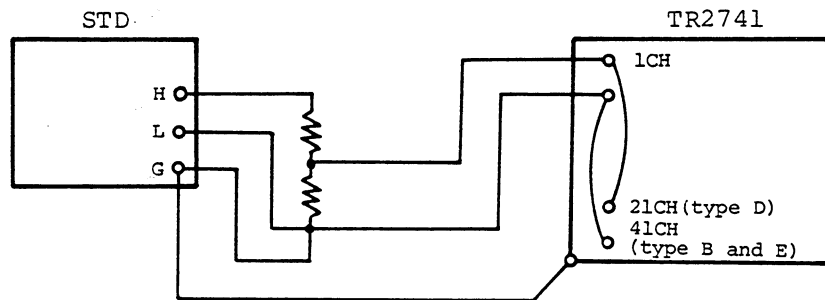

Fig. 14-3 Input connection
- ① Connect the voltage divider (ATT.) and DC voltage standard to the input as shown in Figure 14-3.